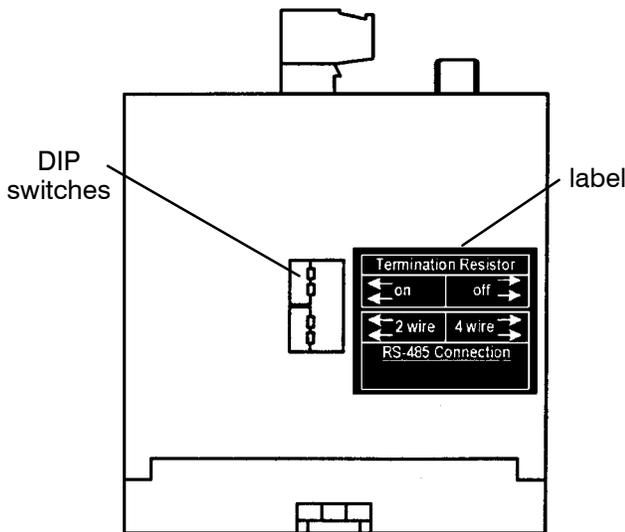

Figure 4. Termination resistor DIP switches on bottom of Serial Module. Must be ON for ATS farthest away from the host device.
4. When daisy chaining multiple ATSS, the ATS the **farthest distance** from the controlling device must have a termination resistor. The Serial Module has a built-in termination resistor that can be connected by moving two DIP switches to ON (see Figure 4).